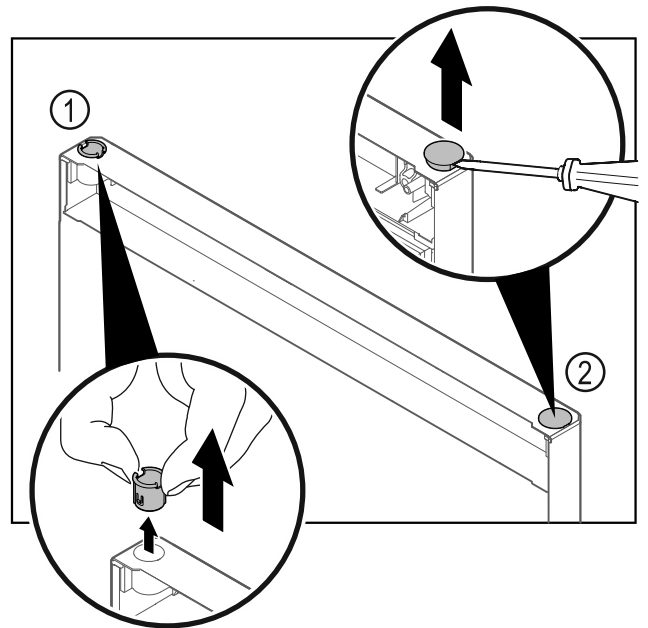

Fig. 39 Freezer compartment door
- ▶ Pull out the hinge bushing Fig. 39 (1) with your fingers.
- ▶ Carefully lift the cover plug Fig. 39 (2) with a slotted screwdriver and pull it out.